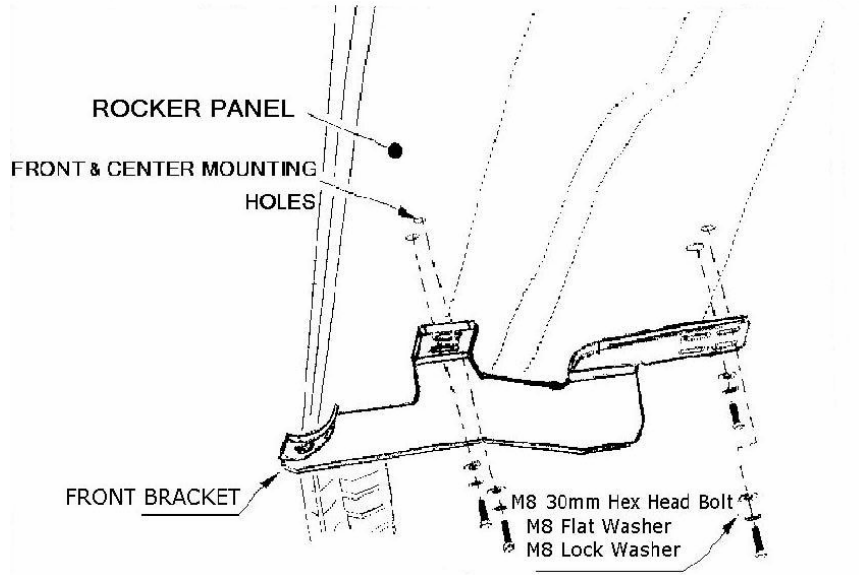

Figure 1. Installation View of Front Driver Side Shown
2. Determine passenger and driver brackets. Both front and center brackets are the same for each side. The metal cup on each bracket should hang over towards the rear of vehicle (**see Fig 1**)
3. Install driver side front and center brackets as shown (**see Fig 1**). Attach to existing holes in rocker panel under the vehicle using 4 M8-1.25 x 30mm hex head bolts and washers per bracket. Hand tighten.